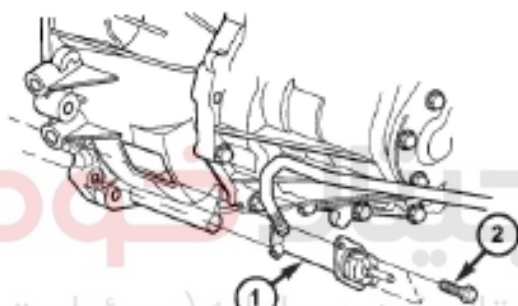
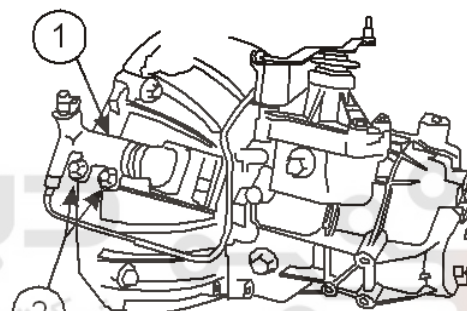

Figure 3-19 Clutch slave cylinder on the transmission
Figure 3-20 Clutch slave cylinder on the transmission
- (1) Lift up the vehicle.
- (2) Screw off fixing bolt for slave cylinder (Figure 3-19 and Figure 3-20).
- (1) Mount the slave cylinder on the transmission (Figure 3-19 and Figure 3-20).
- (2) Screw down slave cylinder and transmission bolt to 19Nm (168 in. lbs.).
- (3) Mount the clutch hydraulic hose on the slave cylinder.
- (4) Lay down the vehicle.
- (5) Confirm the oil reservoir is fully filled with oil and refill it with DOT4 brake oil as the case may be.
- (6) Exhaust air in the clutch hydraulic system.
- (7) Verify the clutch release system for normal function.